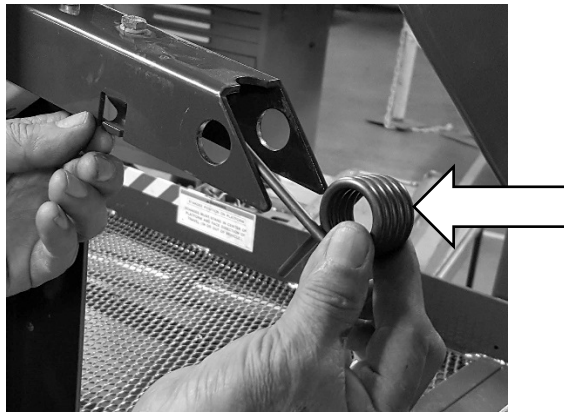

Figure 28. Actuator Spring
4. Refer to **Figure 28**. Remove and retain actuator spring for reuse.